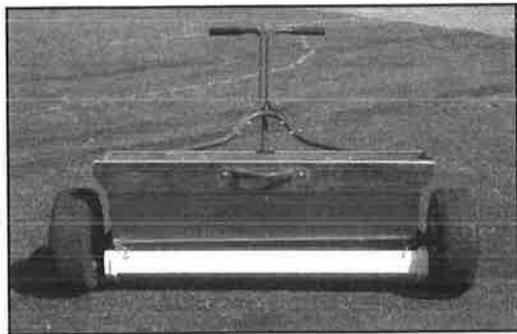

Figure 10-12. You can use a catch pan to calibrate a drop spreader.
**Method 1—Catch-Pan.** Attach a catch pan or small section of gutter with end caps to the bottom of the hopper. It should be wide enough to capture all the granules and attached in a way that does not interfere with the shut-off bar or rate-control linkage (Figure 10-12).